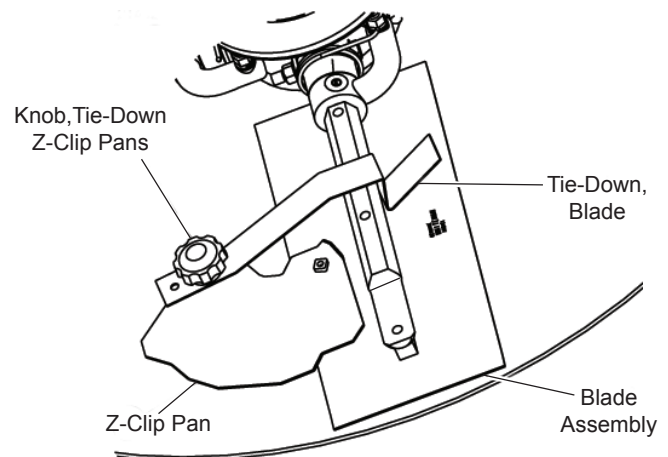

Figure 42. Z-Clip Finisher Pan Installation
Refer to Figure 42 when installing pans onto finisher blades.
3. Attach the blade tie-downs to the far side of the Z-clip brackets with the tie-down knobs as shown in Figure 42.